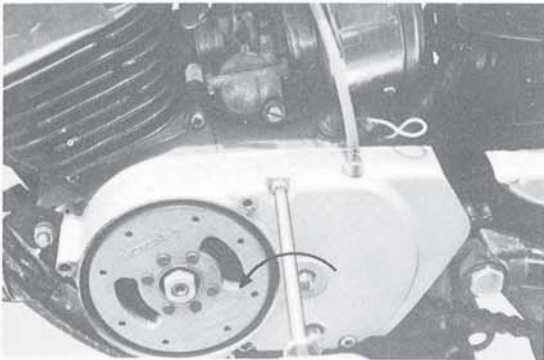

Fig. 4-1-6
5. On the HT1-B, equipped with a flywheel magneto, the wiring should be disconnected from the wire harness center at its connector. (Fig. 4-1-6)